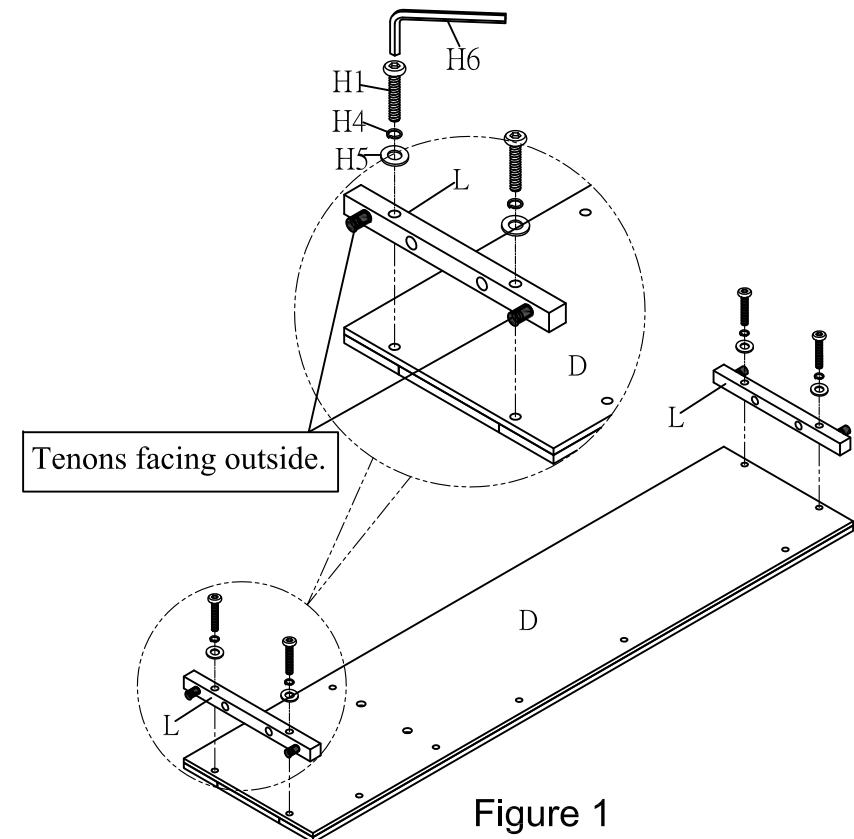

Figure 1
Place the Left Side Panel (D) face down on a smooth soft surface. (The side with the most holes will be facing up.) Attach the Connection Trim (L) to the Left Side Panel (D) using Long Bolt (H1), Spring Washer (H4), Flat Washer (H5) and Allen Wrench (H6). The tenons of Connection Trim (L) should face outward as shown in Figure 1. DO NOT fully tighten bolts at this time. Attach the Connection Trim (L) to the Right Side Panel (E) using the same process.